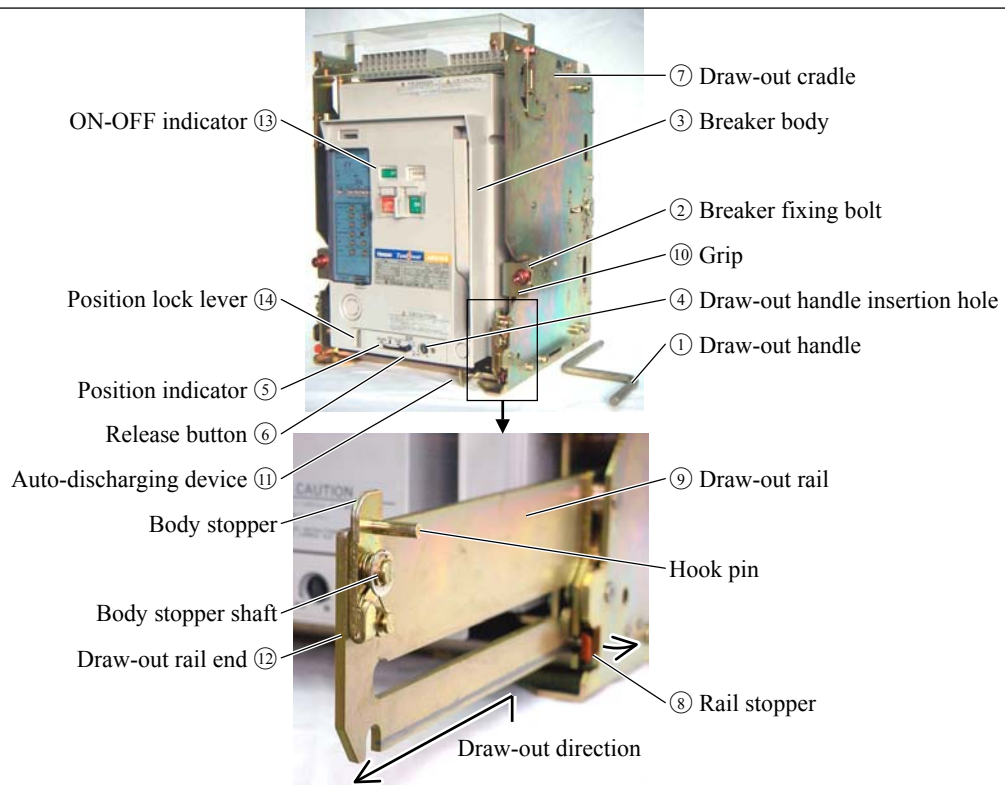

Fig. 25 Draw-out and insertion operation
- 1) Open the ACB. (If the ACB remains closed, the draw-out handle (Fig. 25 ①) cannot be inserted).
- 2) Loosen the breaker fixing bolts (Fig. 25 ②), if used, to unlock the breaker body (Fig. 25 ③).
- 3) Unlock the position lock lever (Fig. 25 ⑭) if locked. See section 4-5.
- 4) Insert the draw-out handle into the draw-out handle insertion hole (Fig. 25 ④) and slowly turn counterclockwise until the position indicator (Fig. 25 ⑤) shows “TEST”.
- 2) Press the release button (Fig. 25 ⑥). The release button will be locked depressed.
- 4) Insert the draw-out handle into the draw-out handle insertion hole (Fig. 25 ④) and slowly turn counterclockwise until the position indicator (Fig. 25 ⑤) shows “ISOLATED” and a freewheeling sound is heard. Turning the draw-out handle will unlock the release button.
- 1) Make sure the draw-out cradle (Fig. 25 ⑦) is secured with mounting screws.
- 2) Unlock the position lock lever (Fig. 25 ⑭) if locked. See section 4-5.
- 3) Push the rail stoppers (Fig. 25 ⑧) outward on both sides of the draw-out cradle to unlock the draw-out rail (Fig. 25 ⑨), and then uphold and pull out the rail until it stops. The draw-out rail will be locked again by the stoppers. (The breaker body cannot be drawn out unless the rail is locked).
- 4) Holding both the grips (Fig. 25 ⑩), draw out the breaker body until it stops.
- If the ACB is equipped with an optional auto-discharging device (Fig. 25 ⑪), the closing springs of the ACB will be automatically discharged with a mechanical sound. This sound does not mean a malfunction.
- 5) Use an optional lifter or lifting plate to transfer the breaker body (Fig. 25 ③) to a safe place. Refer to section 2-1-2.
- 2) Push the rail stoppers (Fig. 25 ⑧) outward on both sides of the draw-out cradle to unlock the draw-out rail (Fig. 25 ⑨), and then uphold and pull out the rail until it stops. The draw-out rail will be locked again by the stoppers. (The breaker body (Fig. 25 ③) cannot be inserted unless the rail is locked).
- 4) If the ACB has the breaker fixing bolts (Fig. 25 ②), make sure the bolts are loosened and, holding both the grips (Fig. 25 ⑩), firmly push the breaker body into the draw-out cradle.
- 5) Push the rail stoppers (Fig. 25 ⑧) outward on both sides of the draw-out cradle (Fig. 25 ⑫) to unlock the draw-out rail, and then push the rail ends to insert the rail until it stops. The draw-out rail will be locked again by the stoppers.
- 1) Make sure the ON-OFF indicator (Fig. 25 ⑬) shows “OFF”. (If the ACB remains closed, the draw-out handle (Fig. 25 ①) cannot be inserted).
- 3) Insert the draw-out handle into the draw-out handle insertion hole (Fig. 25 ④) and slowly turn clockwise until the position indicator (Fig. 25 ⑤) shows “TEST”.
- 3) Press the release button (Fig. 25 ⑥). The release button will be locked depressed.
- 4) Insert the draw-out handle into the draw-out handle insertion hole (Fig. 25 ④) and turn clockwise until the position indicator (Fig. 25 ⑤) shows “CONN.” and the handle cannot be turned with its max. operating torque (14.7 N-m).
- 6) Tighten the breaker fixing bolts (Fig. 25 ②), if used, to lock the breaker body.